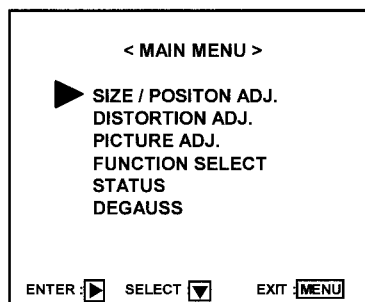

Fig.2
5. Check and set MAIN MENU(Fig.2).